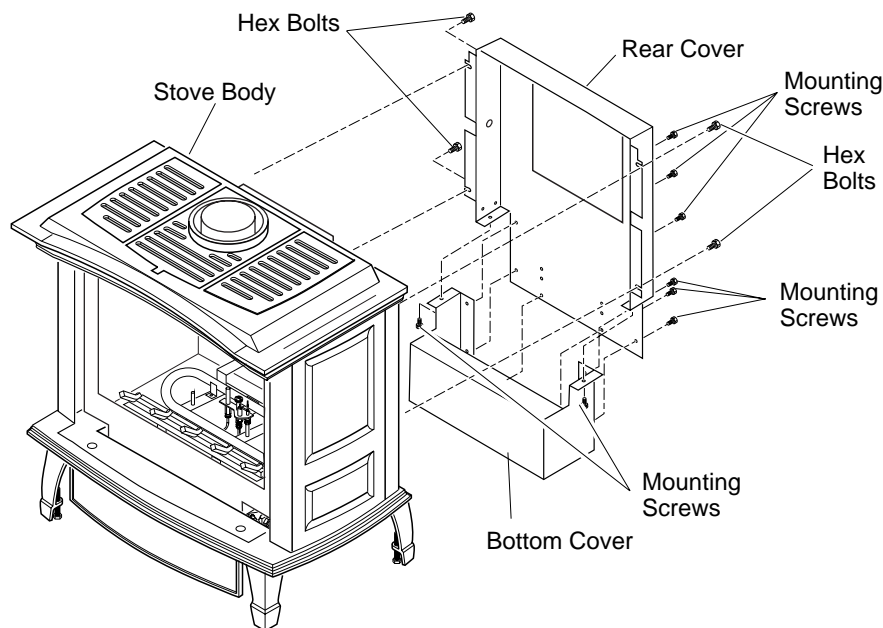

Figure 18 - Removing Rear Cover and Bottom Cover from Stove Body
1. Remove 4 hex bolts securing rear cover to back of stove body (see Figure 18).
2. Separate bottom cover from rear cover by loosening the 8 mounting screws (see Figure 18).
15. Reattach bottom cover to rear cover with 8 screws removed in step 2 on page 8 (see Figure 18, page 8). Make sure that you don't pinch any wires during reassembly.